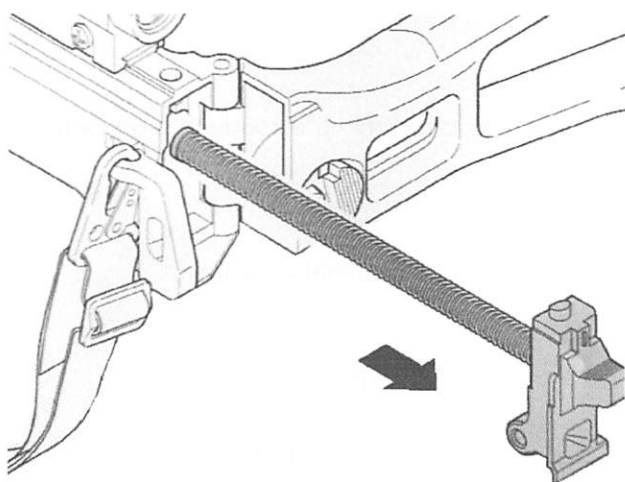

Fig. 22 Remove backplate
- ⇒ Pull backplate with recoil spring backwards and remove them towards the rear (Fig. 22).